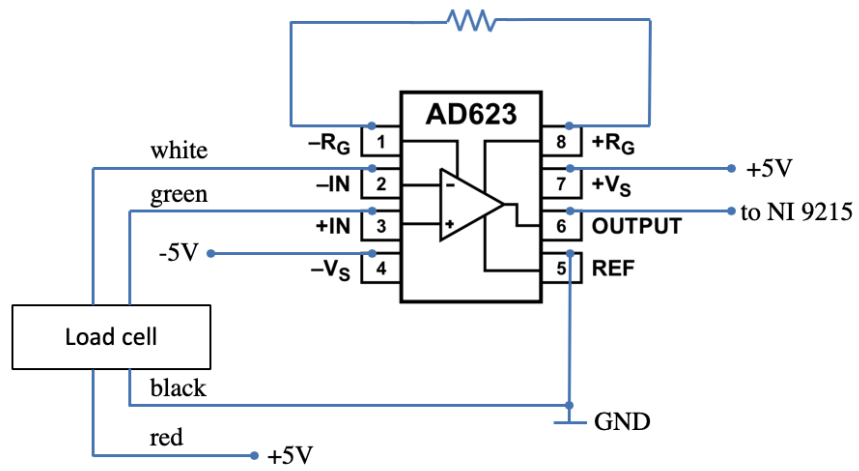

Figure 1: Load cell and instrumentation amplifier connections
- Connect the output of the load cell to the AD623 instrumentation amplifier (see figure 1) and use the gain setting resistor provided for you. Measure the output of the instrumentation amplifier using the NI 9215. Also measure the gain setting resistor and calculate the gain of the amplifier.